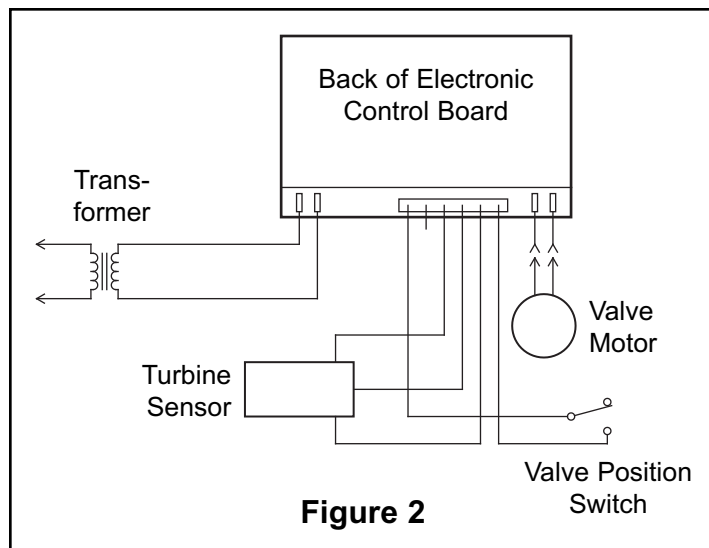

Figure 2
3. Unplug the wiring connections from the back of the old Electronic Control Board (See Figure 2).
6. Reconnect the wiring to the new board (See Figure 2).
7. Plug the transformer into the electrical outlet. A model code (520) and a test number (example: J3.0) briefly appear in the faceplate display. Then, 12:00 PM and the words “PRESENT TIME” begin to flash.